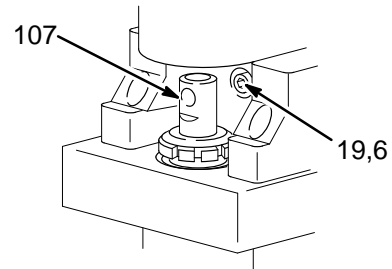
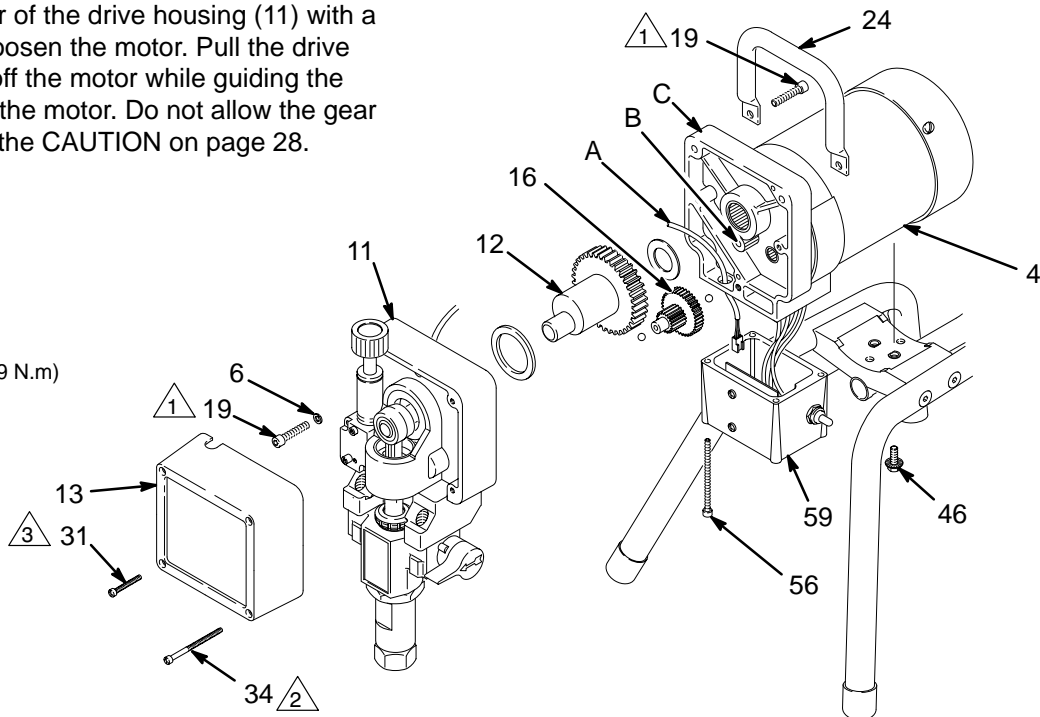
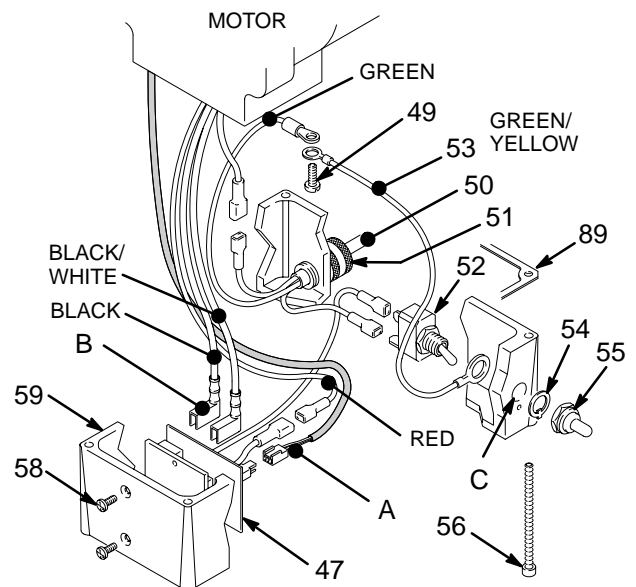

Fig. 25
Fig. 26
Fig. 27
NOTE: See Fig. 26 except where noted.
3. Remove the screws (56) and lower the junction box (59). Disconnect the motor wires and the pressure control wire (A) from the motor start board. Refer to Fig. 27 on page 27.
4. Remove the front cover (13).
5. Turn the displacement pump rod (107) so the pin hole aligns with the bottom drive housing screw (19). See Fig. 25. Remove the three drive housing screws and lockwashers (19,6). Also see Fig. 26.
6. Remove the two motor screws (19) and and remove the sprayer handle (24).
7. Tap the lower rear of the drive housing (11) with a plastic mallet to loosen the motor. Pull the drive housing straight off the motor while guiding the harness (A) from the motor. Do not allow the gear (16) to fall. Read the CAUTION on page 28.
8. Remove the two screws (46) and lift the motor off the base (66).
9. Align the new motor with the base and reinstall the screws (46).
11. Connect the wires in the junction box. Refer to Fig. 27 on page 27. Install the junction box.
12. Connect the piston rod (107) to the drive housing; see page 22, **Installing the Pump**, Step 2 and the WARNING following it.
NOTE: See Fig. 27 for this procedure.